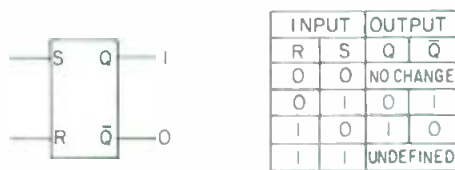

Figure 2. RS flip-flop with truth table.
The RS (Reset-Set, but usually referred to as Set-Reset) flip-flop is another bistable device, with two input lines and two output lines (FIGURE 2). The outputs are complementary (that is, opposite in state), and change state in response to the states at the input. Two statements define the operation of the RS flip-flop: "Set to 1," and "Reset to 0." Set to 1 means that an input signal (1) applied to the *set* terminal (S) switches the circuit's Q output to HI (1) (and the  $\bar{Q}$  output to LO). Reset to 0 means that an input signal (1, applied to the *reset* input (R) switches the flip-flop to the opposite condition ( $Q = LO (0)$ ,  $\bar{Q} = HI (1)$ ). Simultaneous inputs at both the R and S terminals are forbidden, since the flip-flop can never be in both states simultaneously. Therefore, the RS flip-flop is only used in situations which don't include simultaneous set and reset inputs.